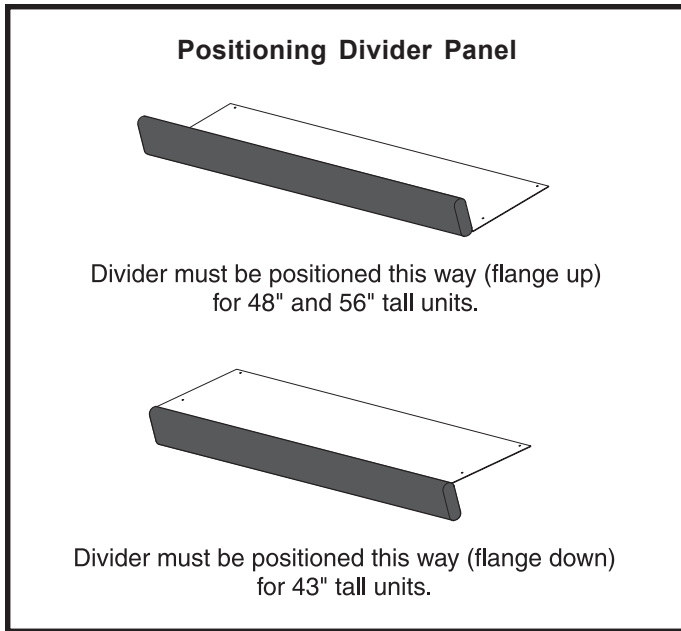

Figure 3
2. Verify divider panel is positioned properly. Figure 3 shows the correct position for 48" and 56" tall units (flange pointing up). For 43" tall units, the divider panel should be positioned so the flange points down.